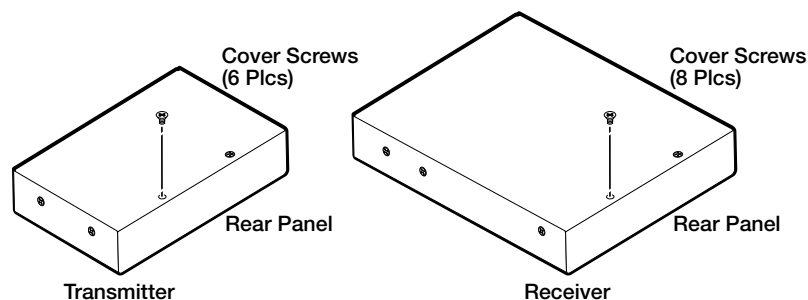

Figure 9. Opening the Transmitter and Receiver
2. Remove and retain the screws securing the covers to the transmitter and receiver. Slide the covers forward slightly and lift them off both units (see figure 9).